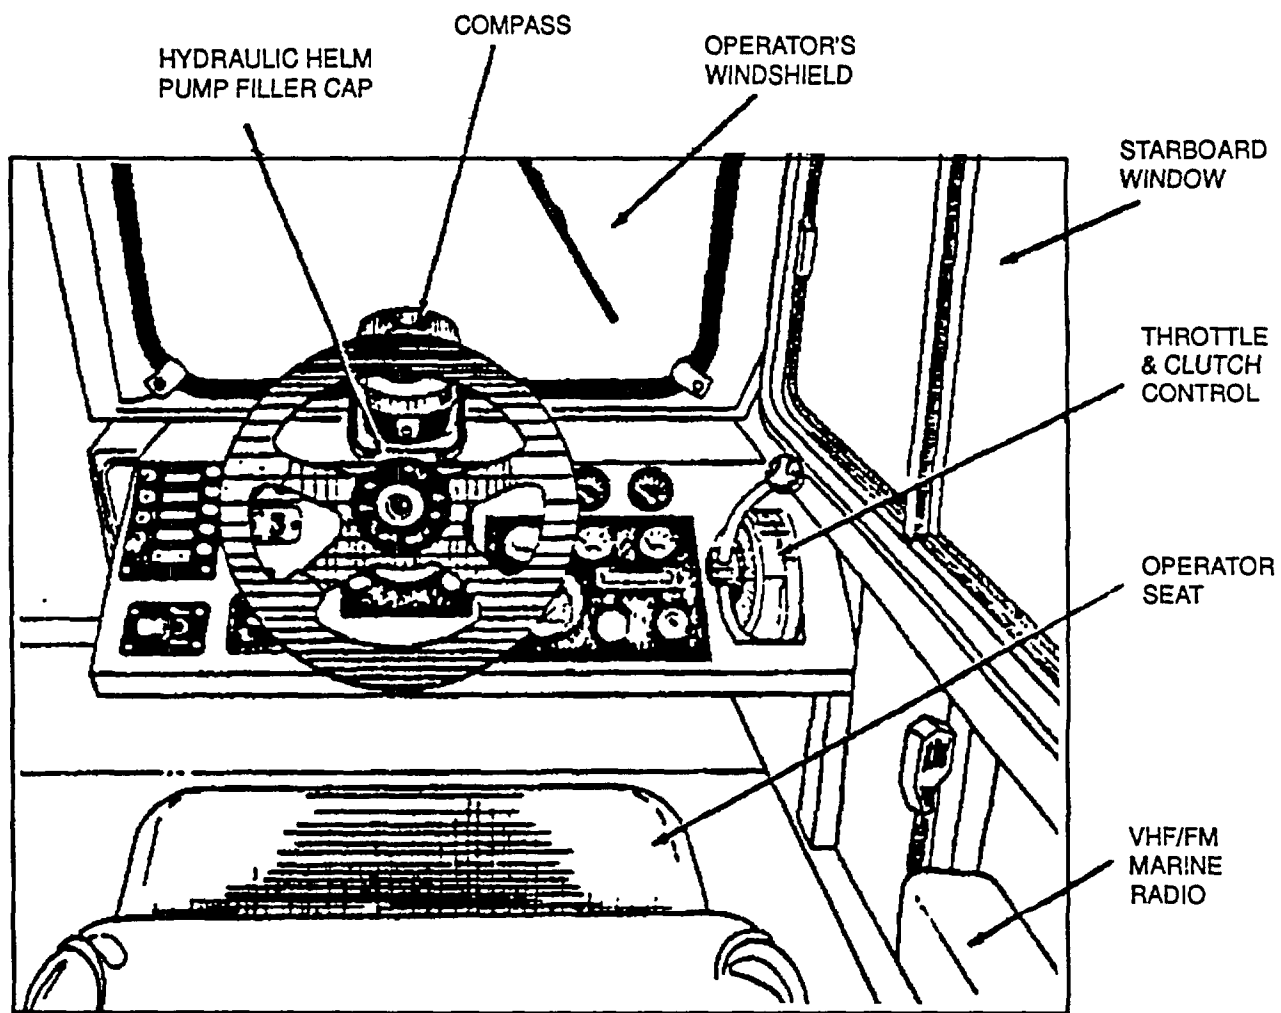

Figure 10-3. Workboat Operator Controls and Indicators
10-6 Controls and Indicators. Operator controls and indicators are at operator's station in workboat cabin on forward starboard side (Figure 10-3). Workboats have same controls and indicators, but the locations of dash-mounted items vary among different boats. Following sections provide general location and operating instructions for controls and indicators in the workboat cabin.
- b. Open cabin and make sure master switch is OFF (Figure 10-3). Obtain engine hatch tool from under operator's seat.
- a. At operator's station, make sure all electrical circuits are OFF except bilge pumps, which should be in AUTO (Figure 10-3).
- e. Release engine speed control from shift control by placing shift control lever in neutral position, and, while holding in on button at bottom of lever, moving lever forward (Figure 10-3).